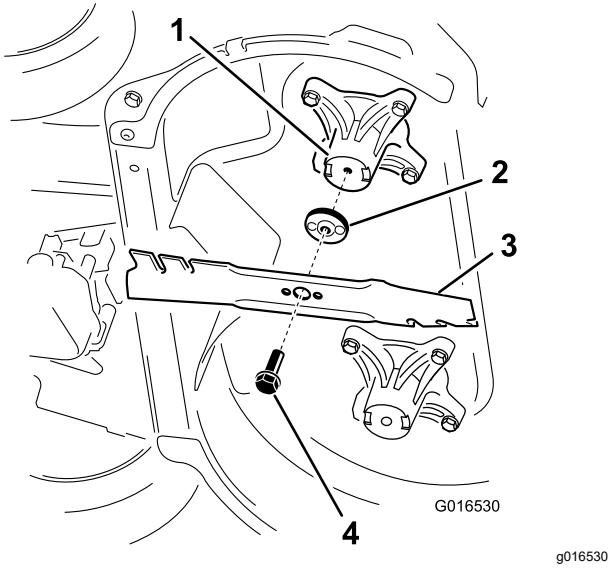

Figure 37
- Remove each blade as shown in Figure 37.
- Install the first blade so that it is horizontal, along with all mounting hardware as shown in Figure 37.